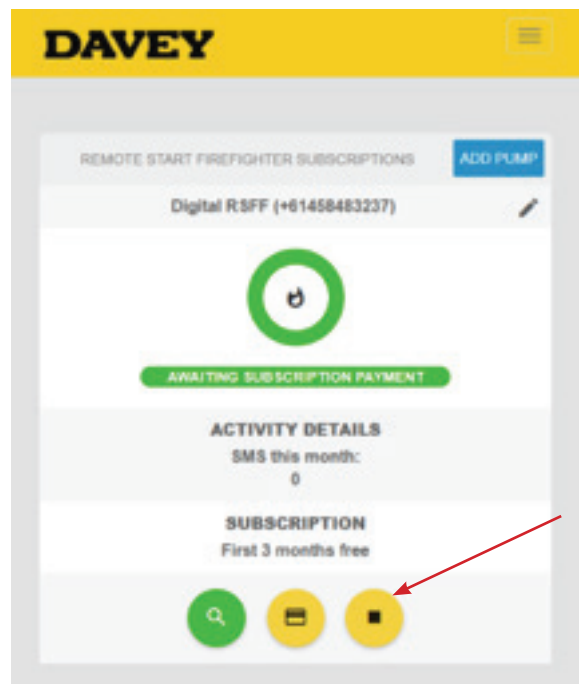

Figure 7.18
- > To stop reoccurring subscription payments, click the square to the right (Figure 7.18).